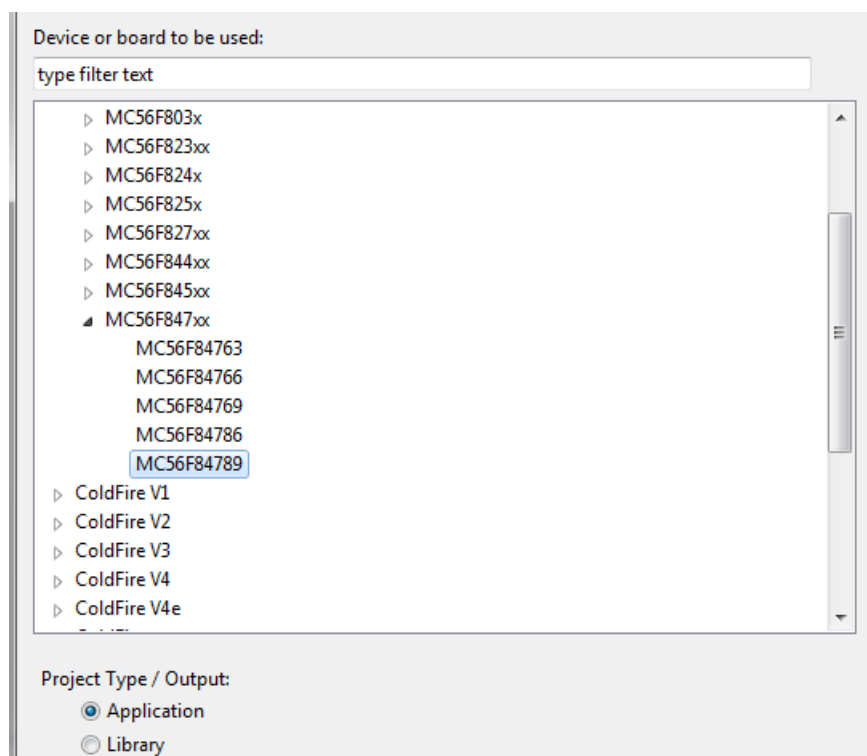

Figure 1-2. Processor selection
5. Expand the tree by clicking the 56800/E (DSC) and MC56F84789. Select the Application option and click Next. See Figure 1-2.